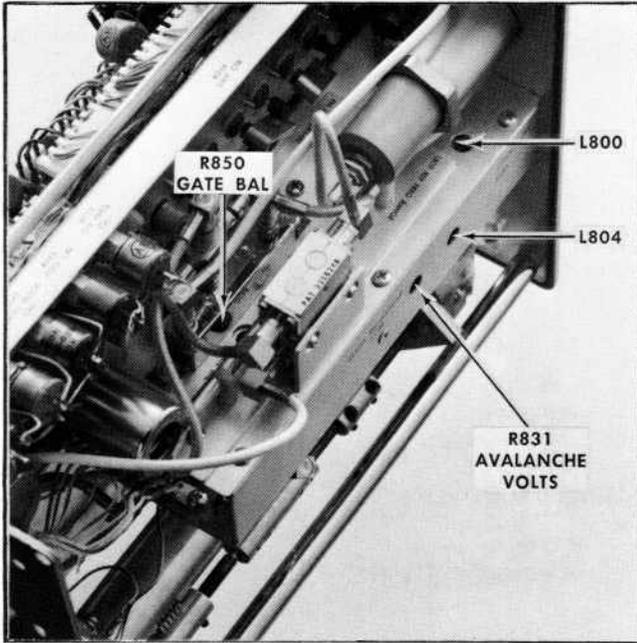

Fig. 5-15. Phase lock circuit adjustments.
e. ADJUST—Insert a tuning tool (Tektronix Part No. 003-0310-00) into the access hole in the side of the phase lock assembly (Fig. 5-15) and adjust L804 so the oscillator starts
i. ADJUST— L800 (Fig. 5-15) until the oscillator frequency shift, over the range of the INT REF FREQ control, is 1.2 kHz (2.4 cm).
(1) Apply the 1 MHz markers from the Type 1L40 to Channel 1 Input of a Dual-Trace Amplifier Plug-In Unit (Type 1A1) and 1 μs markers from the Time-Mark Generator (Type 184) through a 10X attenuator and a 50 Ω termination to Channel 2 Input of the Dual Trace Amplifier.
(2) Adjust the deflection sensitivity for both channels of the Dual-Trace Amplifier to equalize the deflection amplitude, then set the Mode switch to Add.
(3) Set the test oscilloscope Time/Cm to 1 ms and adjust the triggering controls for a triggered display.
(4) Turn the Type 1L40 INT REF FREQ control to the initial on position (ccw) and check the beat frequency display for no more than 10 cycles in 10 cm (reference frequency 1 MHz \pm 1 kHz).
d. (This step is a Calibration adjustment. Proceed to part (e) for Performance Check procedure.) ADJUST—the Avalanche Volts R831 (Fig. 5-15) from a fully ccw position clock-